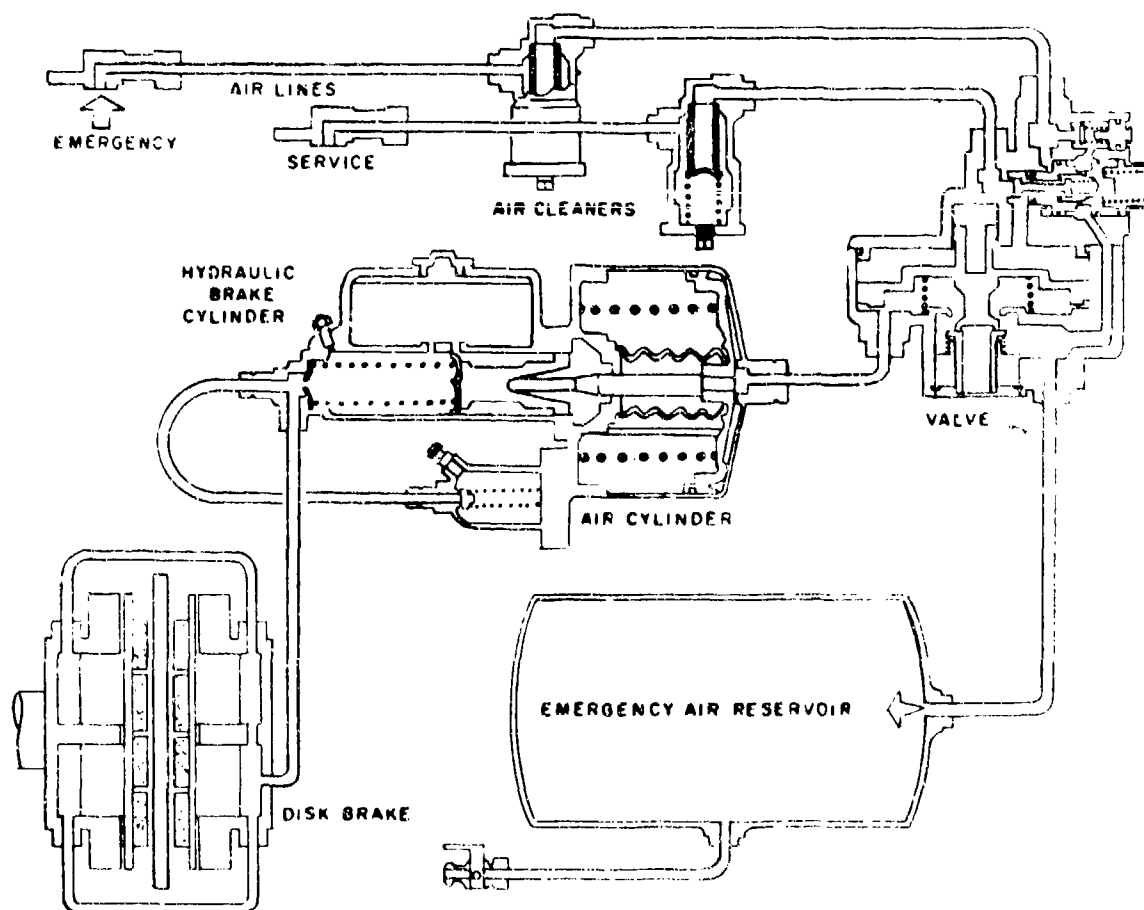

Figure 6-3. Charging
b. *Principal parts.* The principal parts of the air brake system are two air lines (service and emergency), two air cleaners, an emergency relay valve, an air tank, a drain cock, an assembly and a disk brake head assembly (fig 6-3).
e. *Relay valve.* The relay valve (fig 6-3) is mounted on the trails.